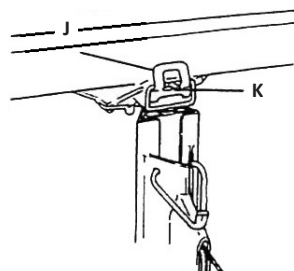

FIG. 6
6. Attach the cradle to the frame (Figure 6):
- Secure the cradle to the frame by snapping the tilt latch upward (J) so it hooks over the stud (K) on the cradle.